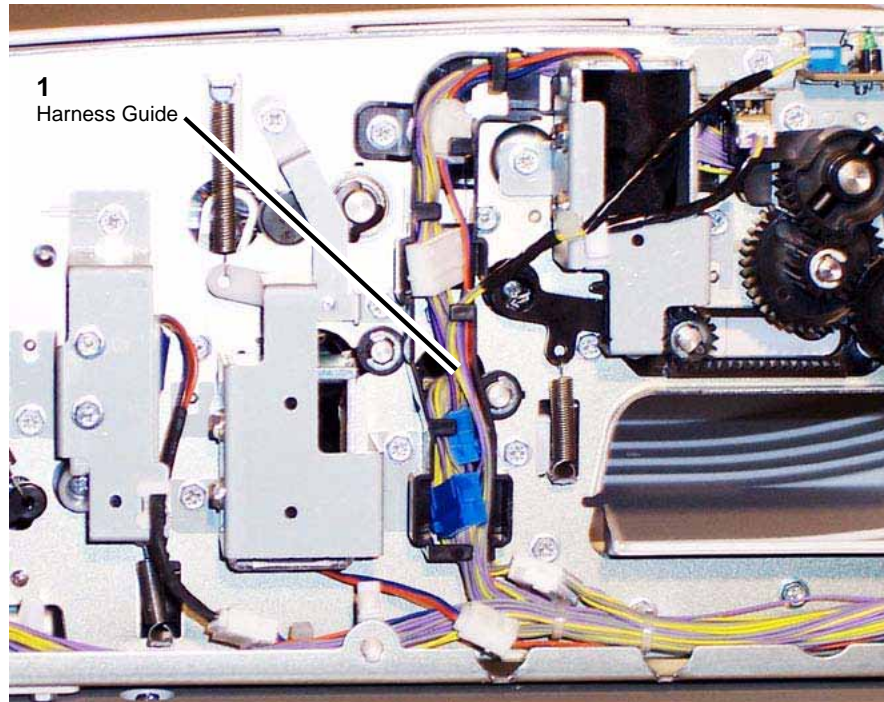

Figure 3 Harness Guide
- b. Remove the screws (2).
15. At the front of the copier/printer, disconnect the connector and remove (2) screws used to secure the harness guide. Note that one screw is hidden behind the loom of wires. Figure 3